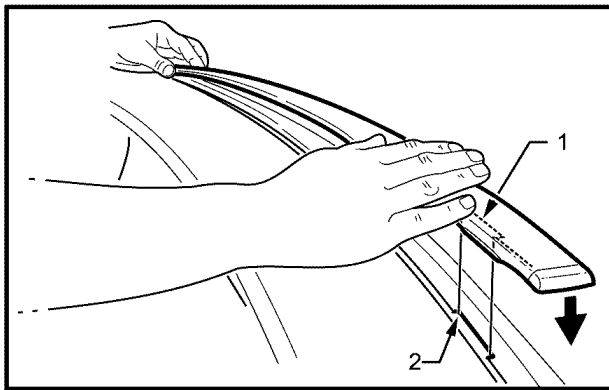

FIGURE 4
4. Refer to Figure 4 for the following: